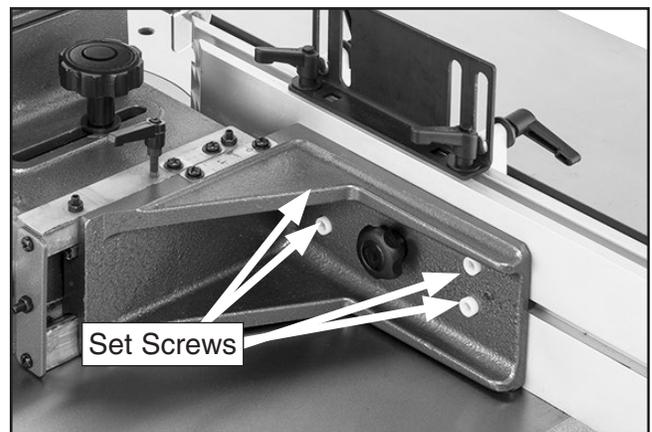

Figure 72. Fence face set screw locations.
5. With straightedge against fence faces, adjust fence set screws in small increments until any gaps are bridged (see **Figure 72**).